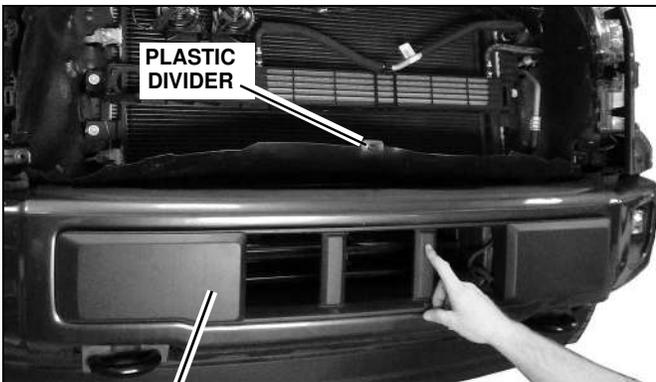

Figure 16
5. Remove the plastic fasteners holding the plastic divider to the bumper and pull the front bumper cover straight out of the bumper. (See Figure 16)